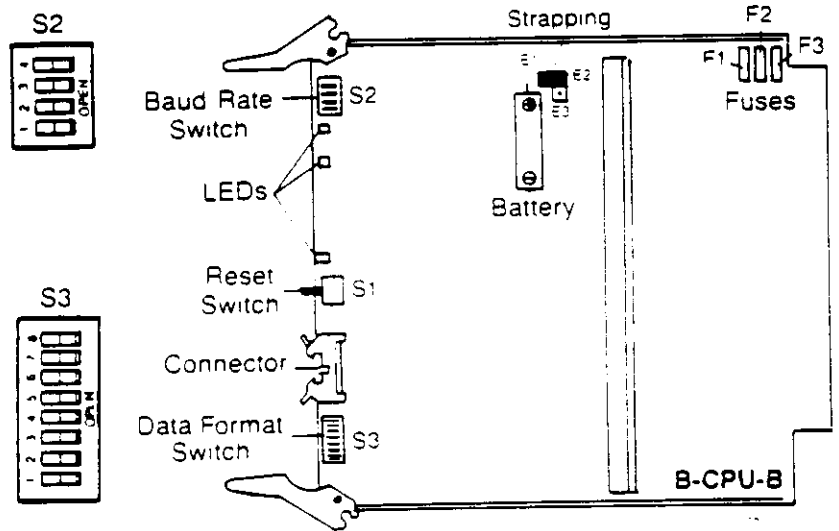

Figure 7-2 SERIAL DATA SWITCH (S3), BAUD RATE SWITCH (S2) AND RESET SWITCH (S1) LOCATIONS, EK-824/1232/1648
- (3) The baud rate switch (S2) and the serial data switch (S3) on the B-CPU-B Printed Circuit Board (PCB) must be set to match the programming terminal (Figure 7-2).